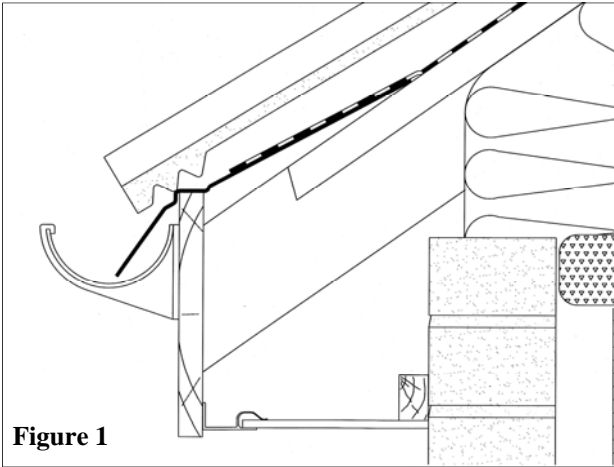

Figure 1
1. Position the eaves skirt on top of the fascia board as shown in Figure 1.